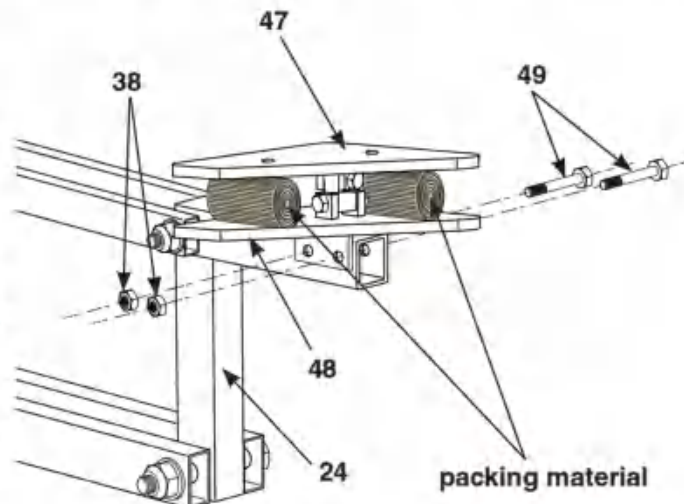

Figure 13
19. The bracket assembly is comprised of a mounting plate and a cradle support adapter. Place the bracket assembly with the cradle support adapter (48) touching the connection point of the tee and the mounting plate (47) facing upwards. **See Figure 13.**
20. Connect bracket assembly to the tee (24) using two cap screws (49) and two nuts (38). Torque to 400 - 500 in. lbs. **See Figure 13.**